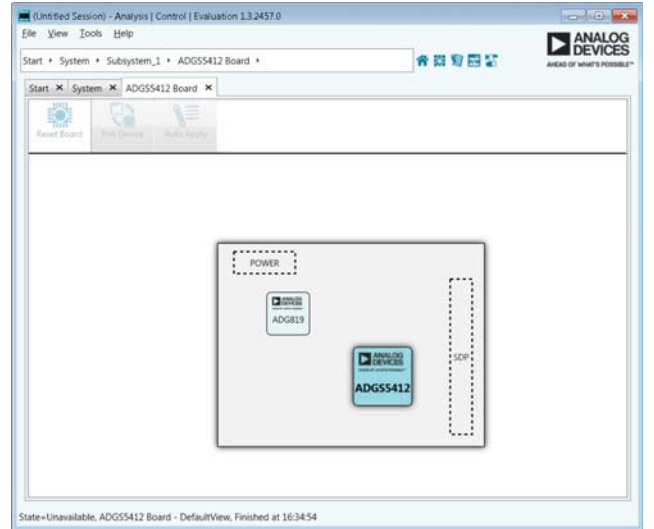
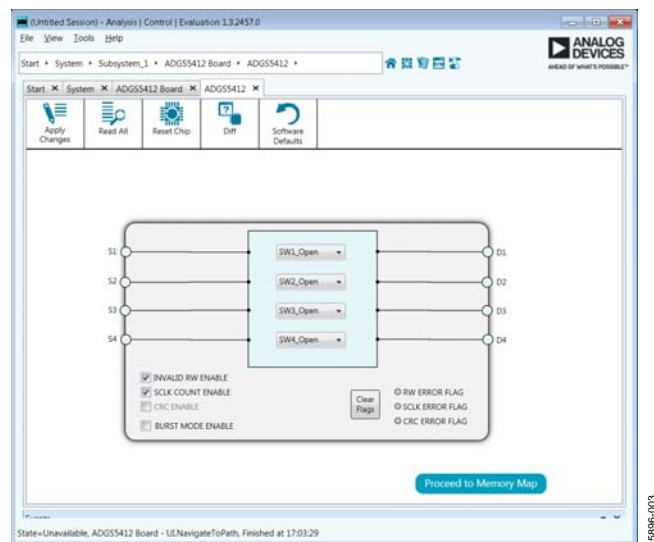

Figure 2. Evaluation Board View of the EVAL-ADGS5412SDZ
Figure 3. Chip Block Diagram View for the ADGS5412
4. Double-click on the evaluation board plug-in to open the evaluation board view seen in Figure 2.
5. The chip block diagram can be accessed by double-clicking on the ADGS5412 icon (see Figure 2). This view provides a basic representation of functionality of the evaluation board. The main functions are labeled in Figure 3.